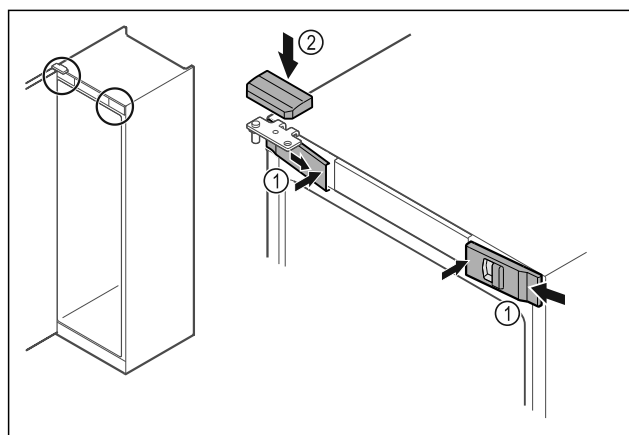

Fig. 49
- Hook in the front covers Fig. 49 (1) on the side and snap them into place on the inside.
- Snap on the top cover Fig. 49 (2) from above.